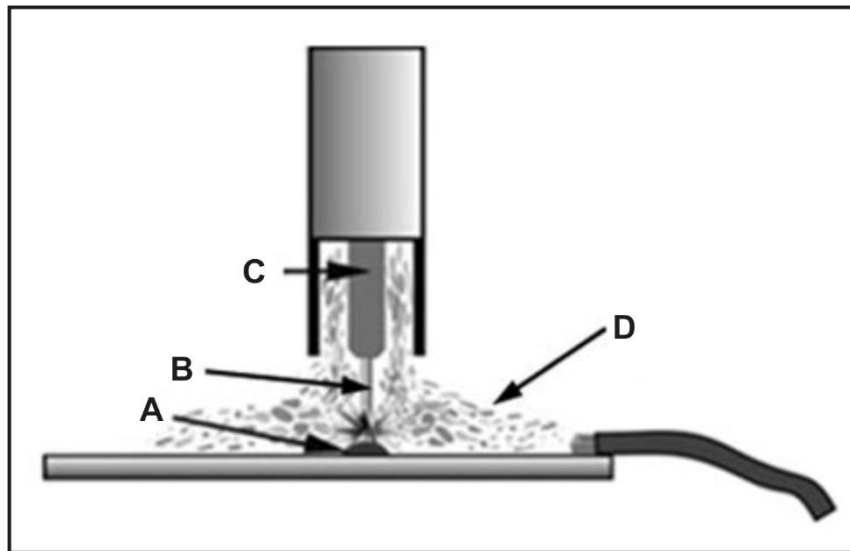

FIGURE 6.4
6.4 Figure 6.4 shows the MIG/MAGS welding process. Label **A** to **D**.